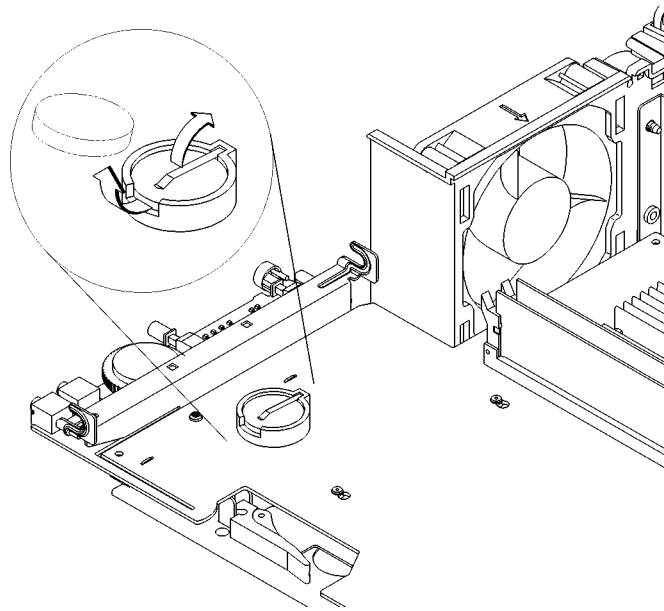

Figure 60 **Removing the Battery**
- 6 Lift the clip and slip the battery out of its holder, as shown in Figure 60.